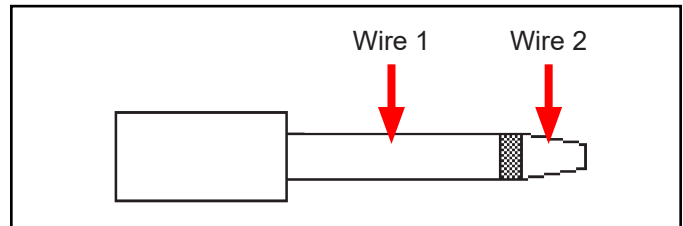

Figure 6. Connecting the monitor's ground clip to the 725VK plugs
6. Clip the other ends of the single conductor wires to the 4.99M plug from the verification kit. One wire should make contact with the two conductors on the verification kit's plug (see Figure 6).